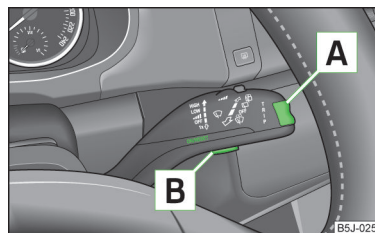

Fig. 25
- » Press and hold rocker switch **A** » Fig. 25 to activate the **MAIN MENU**.
- Warning messages shown in the information display must be confirmed by pressing button **B** briefly » Fig. 25 to call up the main menu.
- Warning messages shown in the MAXI DOT display must be confirmed with button **[B]** » Fig. 25 on page 37 to call up the main menu.